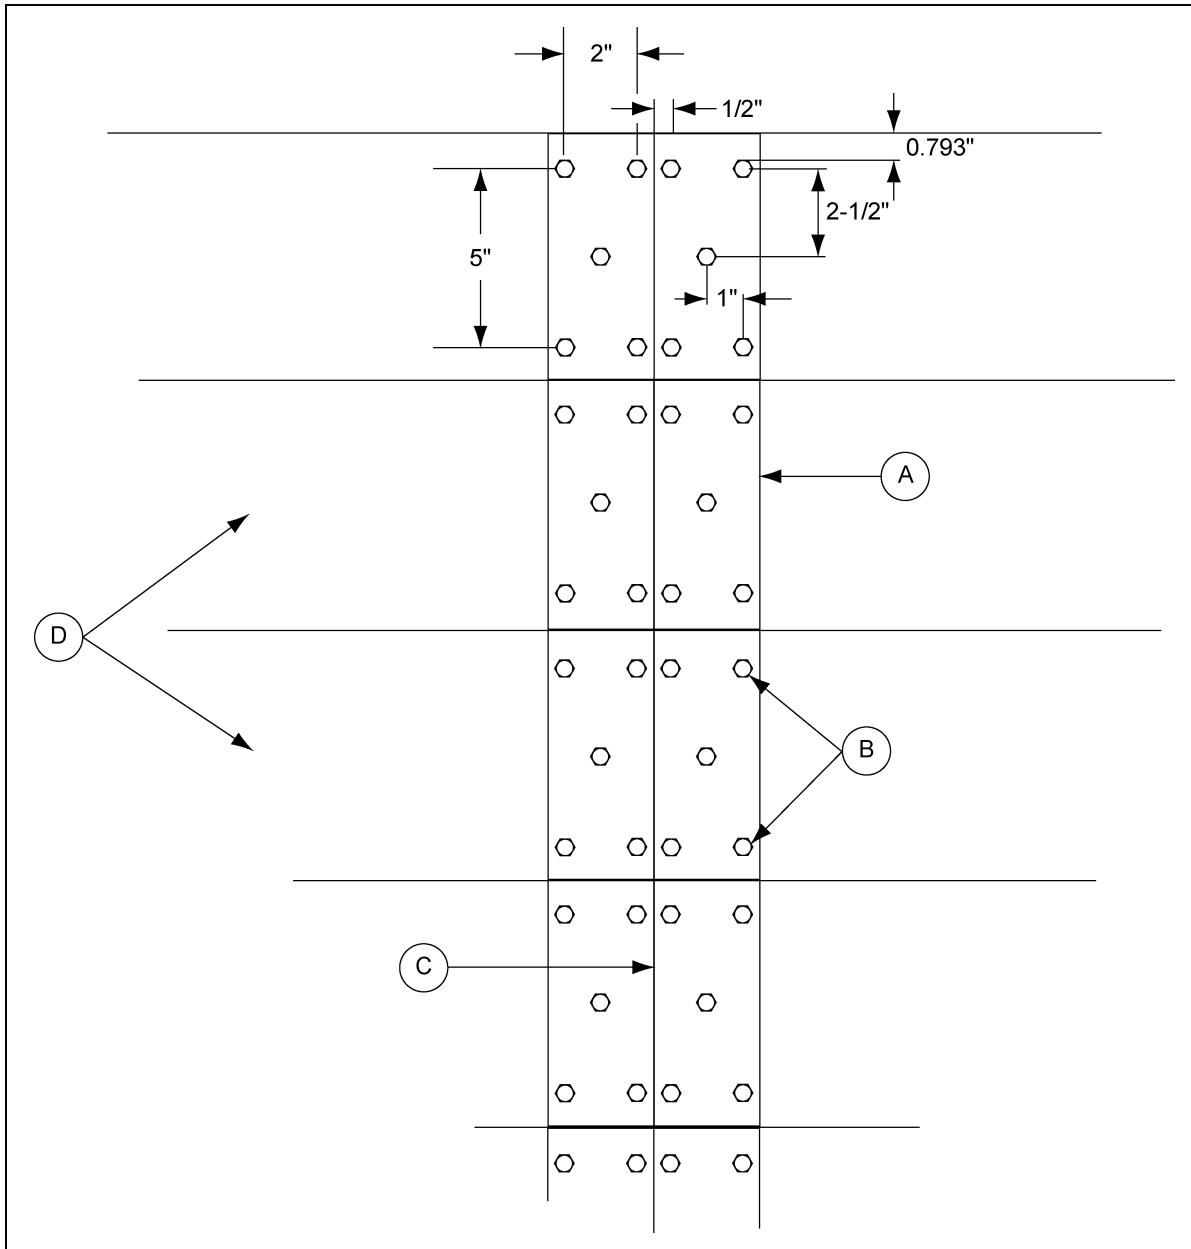

Figure 5E Specifications for installing the Undersplice to Floor Planks
The undersplice should be installed underneath the planks at the split after both plank lengths have been butted together. Each splice has to be installed as each row of planks are installed. *Figure 5E* shows the layout of the undersplice plates (A) and the screw pattern used to secure them.